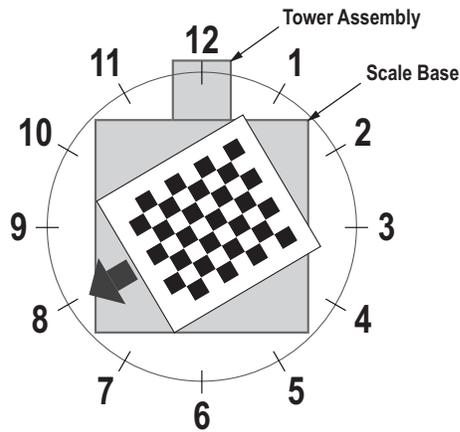

Figure 5-12. Rotate to 8 o'clock
- Align calibration object so the cross hairs are centered. Rotate the calibration object to 8 o'clock with the tower assembly being at 12 o'clock (Figure 5-12).